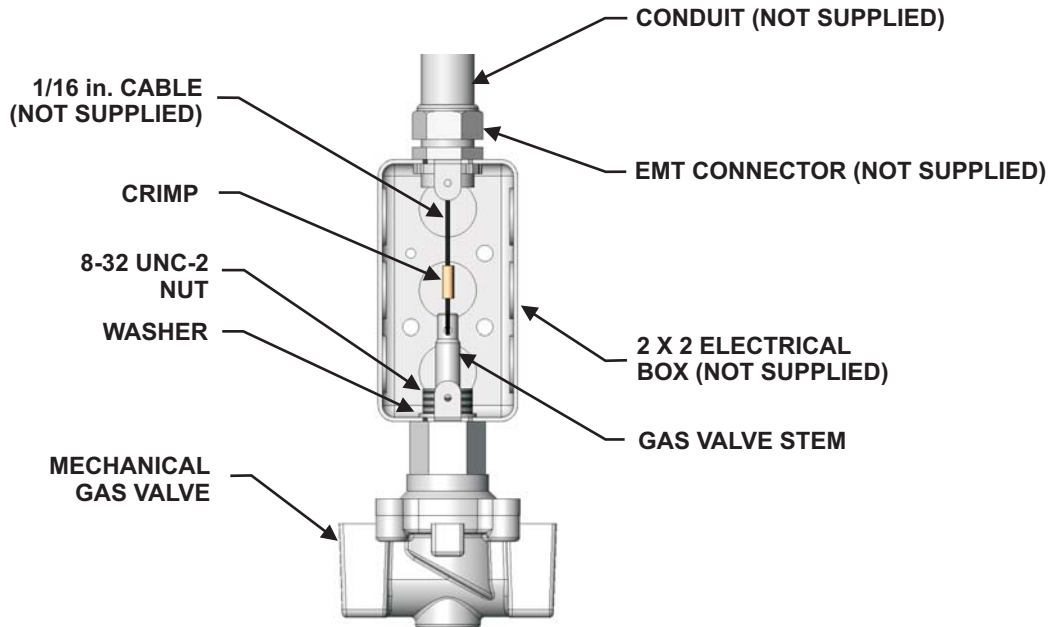

Figure 4-66. Installing Mechanical Gas Valve
2. Remove top and bottom knockouts from the 2x2 electrical box. Install 1/2-inch (13 mm) EMT to top hole of the electrical box (see Figure 4-66).